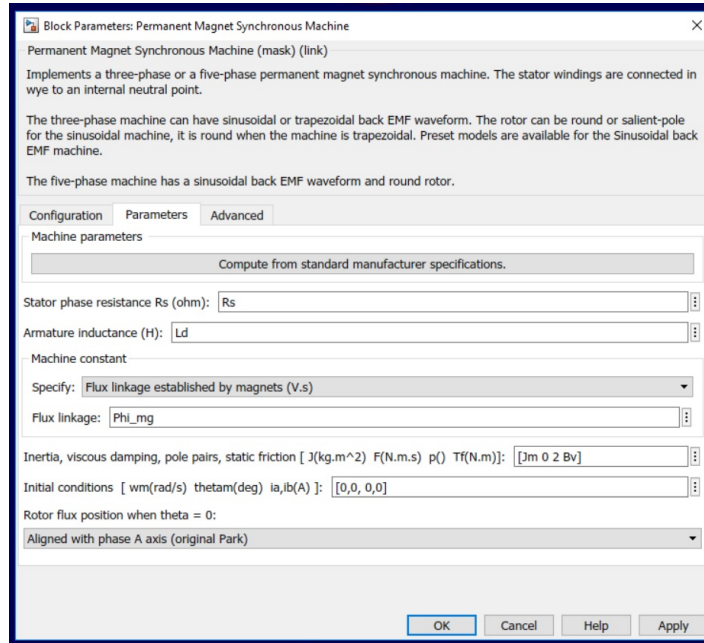

Fig. 0.1 Parameters definition in Simulink Model for PMSM
- c. Under the 'Parameters' tab, type the following: Stator phase resistance: R_s , Armature inductance: L_d . For 'Specify', choose 'Flux linkage established by magnets', Flux linkage: Φ_{mg} , and Inertia, viscous damping, pole pairs, static friction: $[J_m \ 0 \ 2 \ B_v]$. Figure 0.1 shows the settings of all physical parameters needed in the item 'Parameters'.